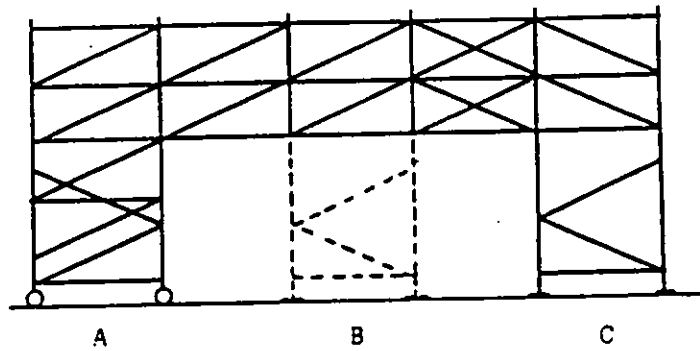
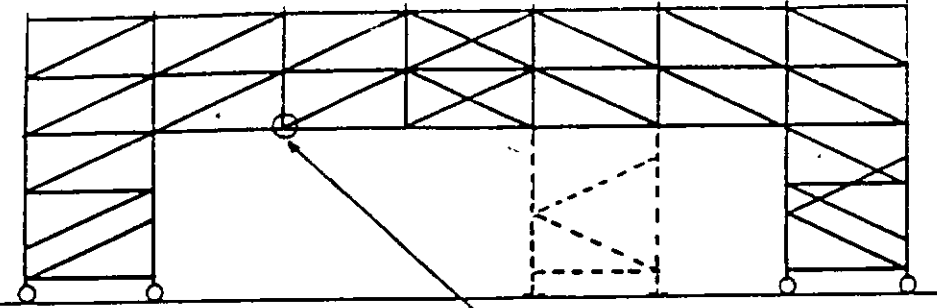

Fig.3
Fig. 5
- c. Remove the base plates from tower (B) by raising the base plates to allow the spigots to drop out of the cones. See Fig. 3.
Remove the base of (C) as in Fig 3. See Fig 5